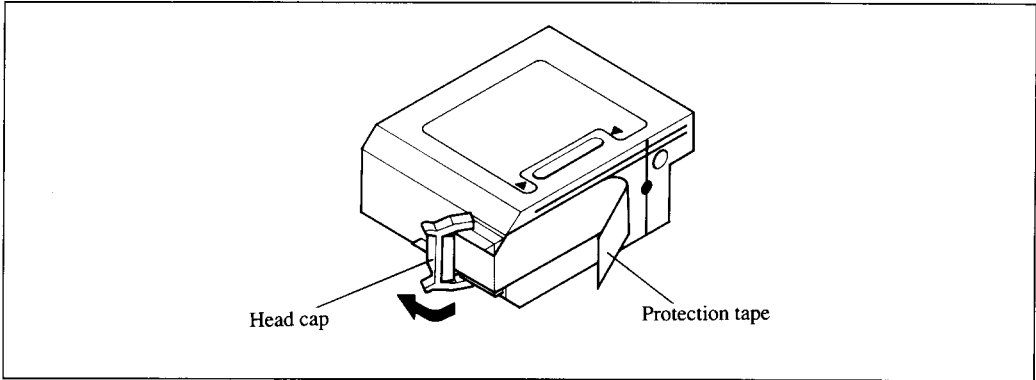

Figure 2-6. Remove the head cap and protection tape from the Ink Cartridge.
4. Push the right side of the head cap carefully as shown in Figure 2-6. It will pop off.